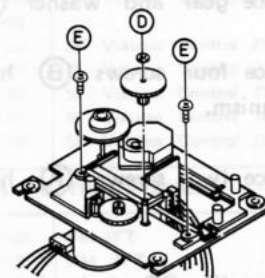

Figure 9
4. Remove washer (D) holding the gear and remove the gear. (See Figure 9.)
5. Remove two screws (E). (see Figure 9.)